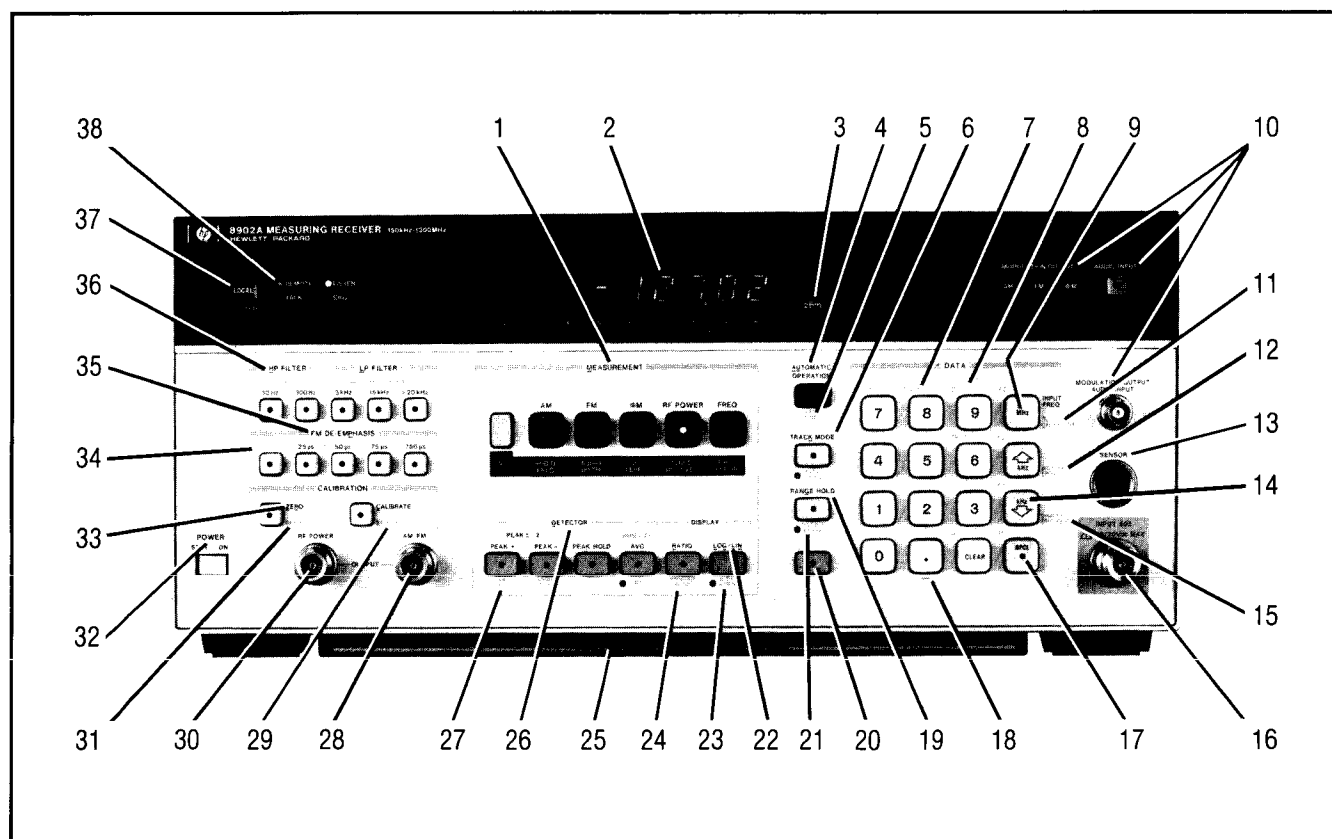

Figure 3-1. Front-Panel Features
Front-panel controls, indicators, and connectors are illustrated and referenced to text in Figure 3-1. The text for this figure describes the various functions of the Measuring Receiver. At the end of each description is a reference to a detailed operating instruction that contains more details on this topic.
6. MODULATION OUTPUT/AUDIO INPUT is a rear-panel output and input supplied on Option 001 instruments. Refer to MODULATION OUTPUT/AUDIO INPUT referenced from Figure 3-1.
7. SENSOR is a rear-panel input for the power sensor supplied on Option 001 instruments. Refer to SENSOR referenced from Figure 3-1.
8. INPUT is a rear-panel input for the RF input signal. This input is supplied on Option 001 instruments. Refer to INPUT referenced from Figure 3-1.
16. CALIBRATION OUTPUT RF PWR and AM/FM produces a rear-panel output for RF Power and AM and FM calibrators. This output is supplied on Option 001 instruments instead of the standard front-panel connection. Refer to both CALIBRATION RF POWER OUTPUT and CALIBRATION AM/FM OUTPUT referenced from Figure 3-1.